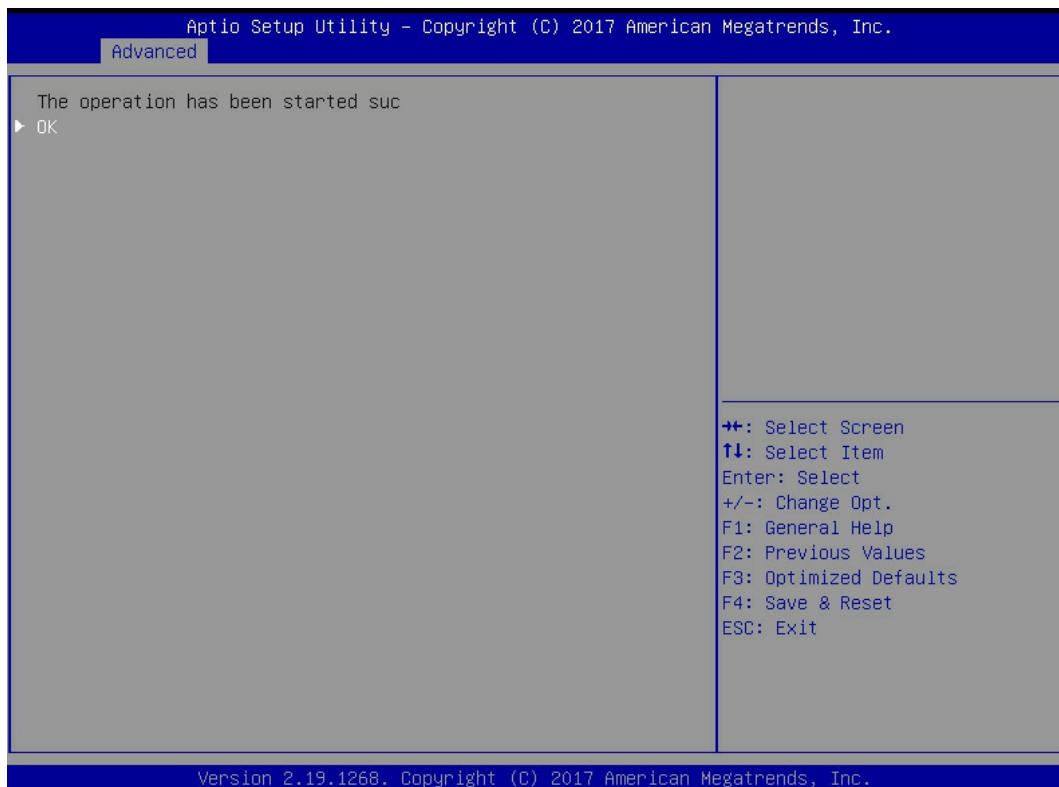

Figure 6-70
f) Enter the interface shown in figure 6-70 to complete the initialization of logical disk.
✧ Figure 6-70 completing initialization of logical drive